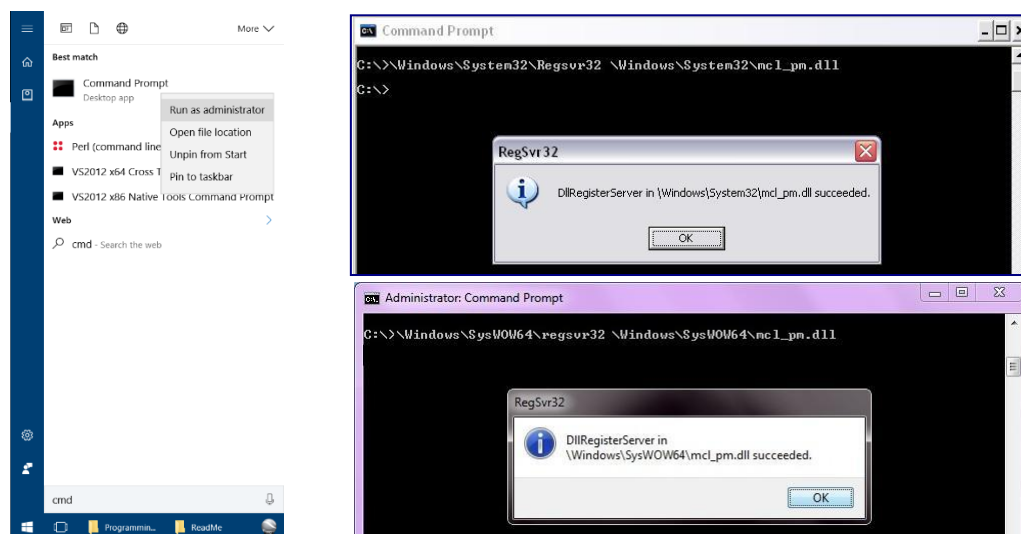

Fig 2 - Opening the Command Prompt in Windows 10 (left); registering the DLL (32-bit top left, 64-bit bottom left)
- For 32-bit Windows operating systems type (see Fig 2):
- For 64-bit Windows operating systems type (see Fig 2):